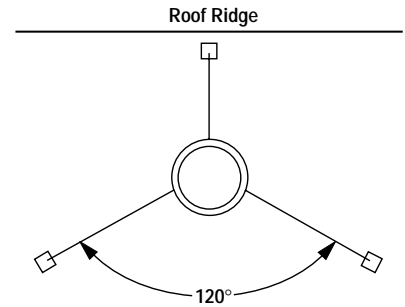

Figure 32
Note: If chimney extends more than 8' above roof surface, guy wires are also recommended. Use three (3) guy wires, attach to locking band assembly, extend and secure to roof in a triangular pattern (see Figure 32). Guy wires are not supplied by the manufacturer.